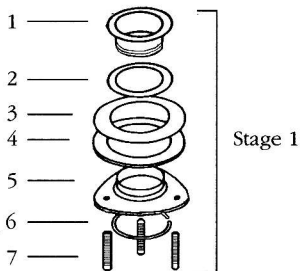

Figure 2
- 3.1) If required the bottom half of the disposer with the waste outlet can be rotated to make the plumbing easier. To do this slightly slacken off **ALL** six bolts around the underside rim of the hopper (if one is not slackened the hopper seals may be twisted out of position and the cutter ring could be misaligned). Gently rotate the lower section of the unit to the required position and tighten the six bolts (see Fig.2).